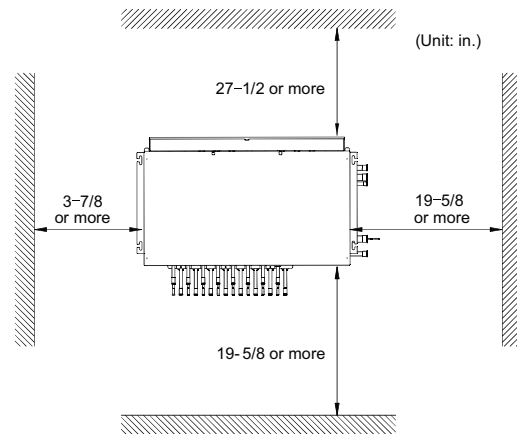

Fig. 4 — False Ceiling Required Clearance
- There should be enough room within the false ceiling for installation and maintenance. See Fig. 4.
- See Fig. 4 below.
3. Secure the unit in position with locknuts and washers on both sides of the mounting bracket. Ensure that the threaded rod does not protrude more than two inches below the mounting brackets as shown in Fig. 4.